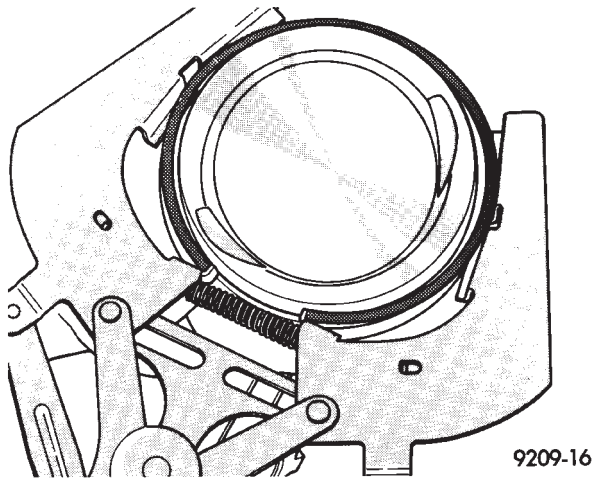

Fig. 4 Remove Piston Rings
- (3) Remove piston rings (Fig. 4).